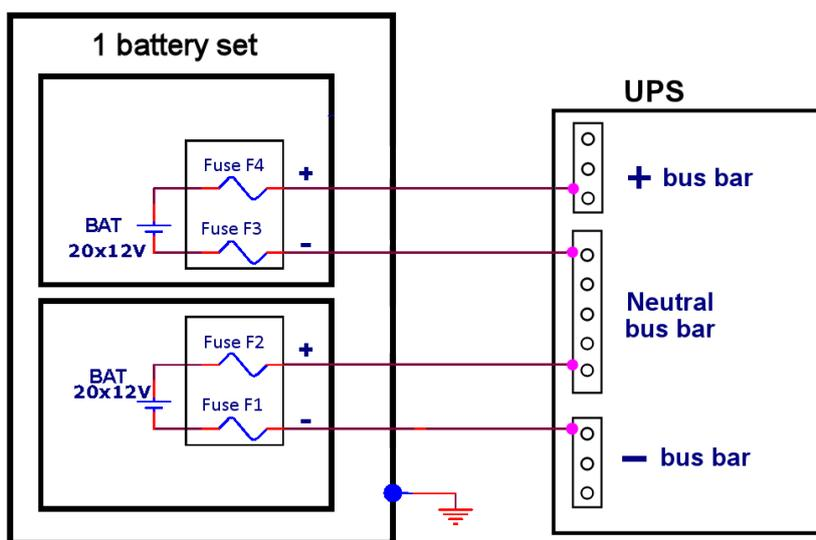
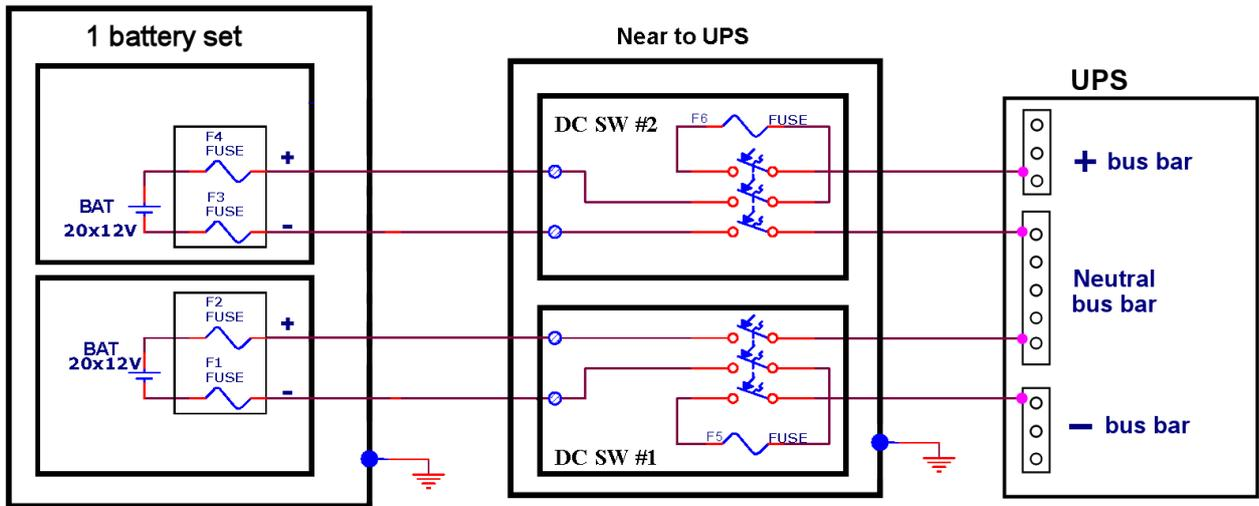

Figure 15: Connecting the battery to the UPS
Figure 16: Another battery connection example, this one with circuit breakers
3. Figure 15 shows the recommended connection to the UPS, which includes two fuses inside of each battery cabinet, one on the plus line and one on the minus line. The recommended fuse values for one set of two cabinets of 20 x 12 Vdc each are shown in Figure 15, according to the output capacity of the UPS.
4. Figure 15 assumes that the battery fuses can be easily disconnected when desired.
6. Connect the battery set to the Centric's positive (“+”) battery bus bar, negative (“-“) battery bus bar, and Neutral bus bar. Refer to Figure 15 and Table 7. **Observe proper polarity!**
7. The fuses between the battery cabinets and the Centric (F1, F2, F3, and F4 in Figure 15 must be **FAST FUSES (SEMICONDUCTOR FUSES)**; for example, the Ferraz Shawmut A70QS fuse.
Note: Fuse values in Table 7 are for fuses F1 through F4 in Figure 15 and Figure 16, and are based on 10-minute backup time at full load. If longer backup time is needed, please consult with your dealer.
Figure 16 shows another example of how the battery can be connected to the UPS. This example includes two circuit breakers, one for each battery cabinet. Fuses F1 through F4 have the same value as specified in Table 7. The rating of Fuses F5 and F6 depends on the number of battery sets.